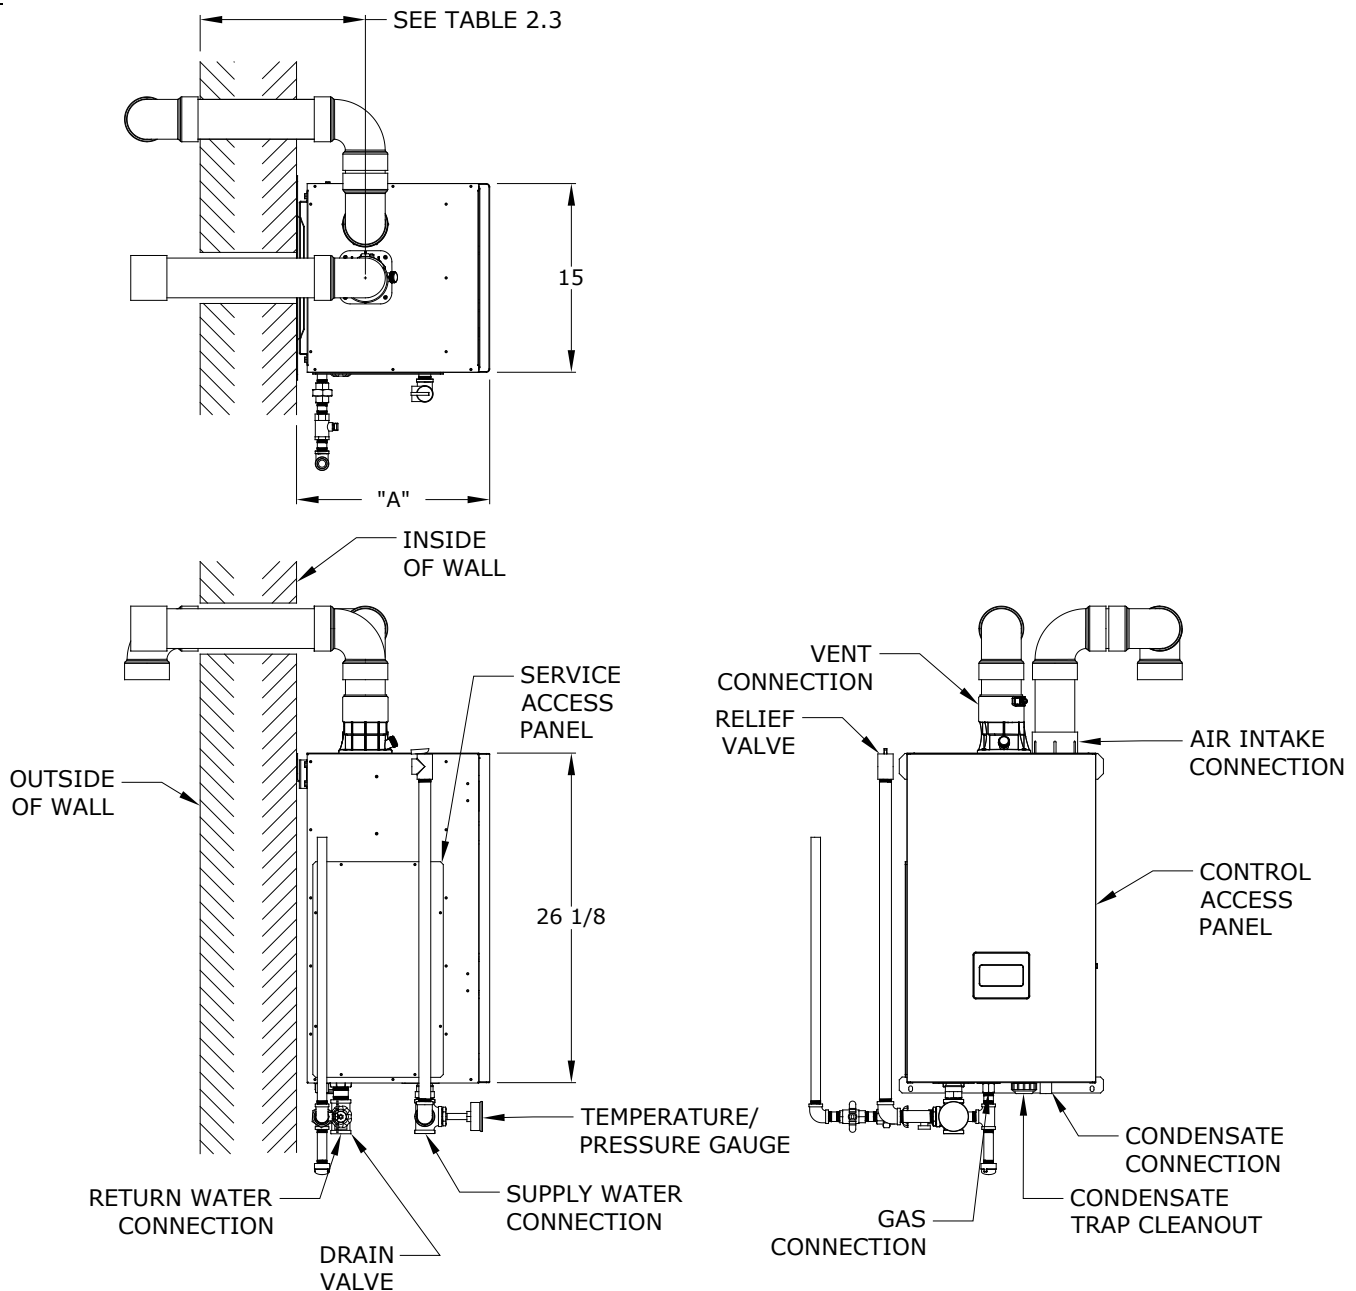

Figure 2.1: General Configuration
4. The relief valve and gauge must be installed in the location shown in Figure 2.1 and must be in the same space as the boiler.